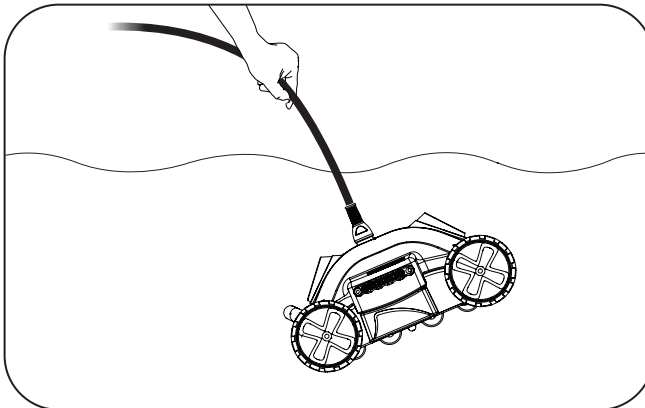

Figure 11. Pull Cleaner to Waterline
2. Gently pull the cleaner up to the waterline (Figure 11).